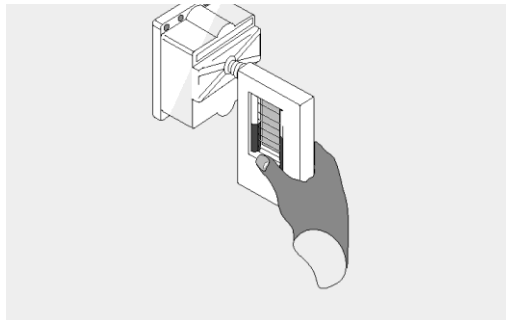

Figure 30: U-tube manometer connected to OMD control cover
- Connect a U-tube manometer at inspection cover (see Figure 30). (U-tube manometer is included in the service box, available as an option).